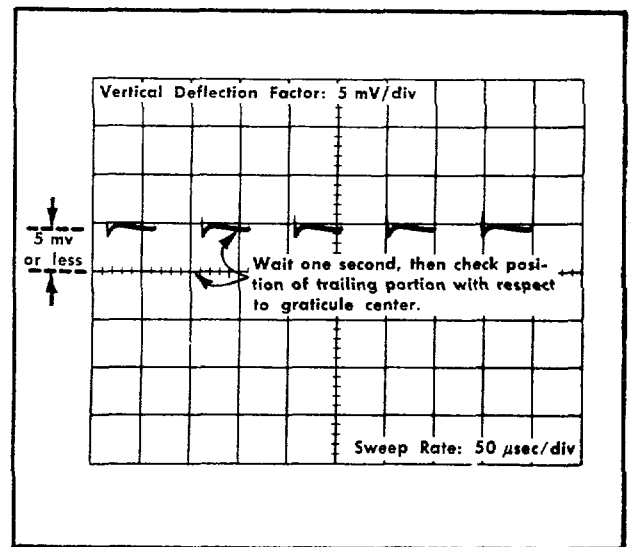

Fig. 5-30. Checking Input B overdrive dc shift.
d. Set the input B AC-DC-GND switch to DC. Wait one second and check the position of the display. The trailing portion of each cycle should be within 5 mV (1 div) or less from graticule center (see Fig. 5-30).